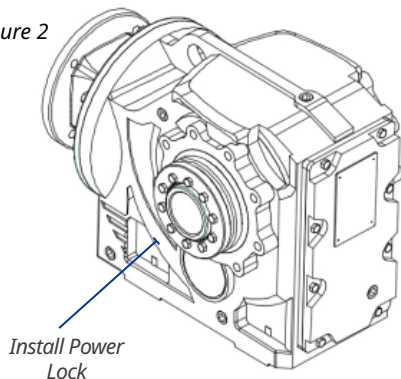

Figure 3
3. Install customer shaft in the hollow output shaft. (Fig. 3 & 4)